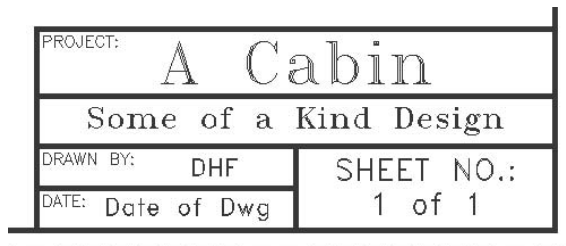

FIGURE B.16: The title block for Layout2
3. Use Zoom Window to zoom in to the title block (see Figure B.16).